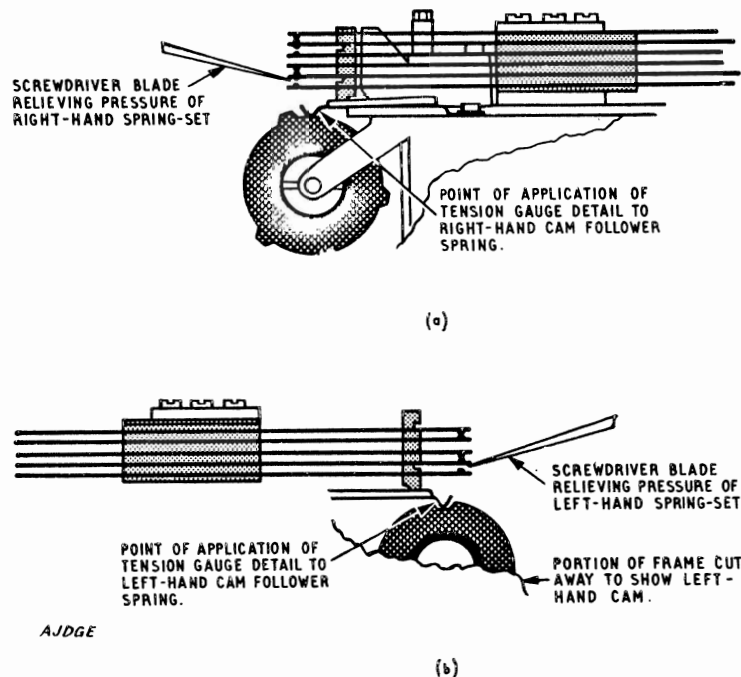

FIG. 8
**15. Cam-follower springs.** Each cam-follower spring should remain in contact with the cam periphery on all steps, exerting a pressure of 15 gm maximum on those portions of the cam between cam risers. This pressure is measured at the band adjacent to the 'V' tip, with the comb-operated spring-set tensions relieved [see Figs. 8(a) and (b)].